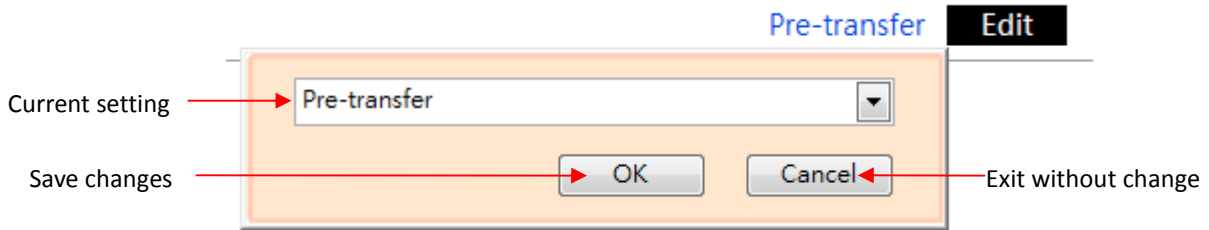

Figure 4-5 Drop-Down List
4. Click  to change the setting. (See Figure 4-5 and 4-6)